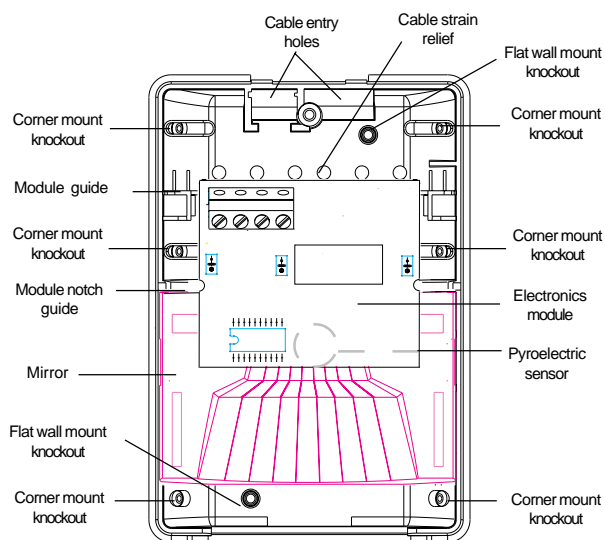

Figure 3. Base
3. Pull up on the top edge of the electronics module while rocking down on the lower edge to remove the module from the base. Be careful not to touch the pyroelectric sensor located on the bottom of the module. See Figure 3.
4. Select mounting holes for corner or wall mounting. Use the base as a template for marking screw hole locations on the wall. See Figure 3.
5. Strip the cable for 2 inches (5cm) and pull it through the cable entry hole(s) and strain relief. Make sure that the cable has slack in the wall. See Figure 3.
8. Replace the electronics module by lining up the notches on the module with the module notch guides and press the top of the module down until it snaps into the module guides. See Figure 3.